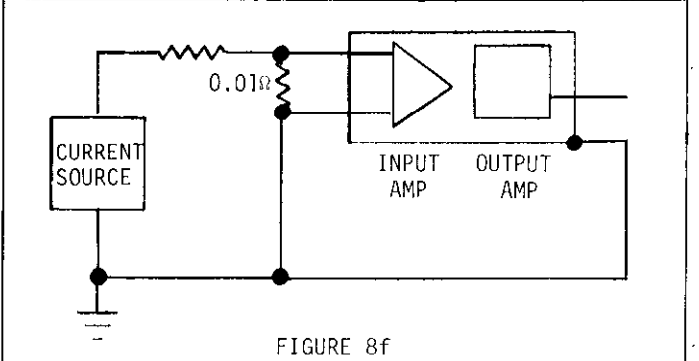

FIGURE 8f
3. Low-resistance "Lindeck" measurements. As in the above situations, the Model 180 has a definite advantage in speed and convenience over potentiometer systems which have traditionally been used to do this type of measurement. The problem with low resistance measurements has been the trade-off between power level and available sensitivity. In a circuit such as Figure 8f, a current of only 100mA may be used with the 180 on the 1mV range, providing .01% resolution. A 1μV DVM would require 1 Amp to provide the same resolution. Potentiometers would provide an equally sensitive measurement of such a low resistance, but not with the speed and convenience of the 180 on the 1mV range. On the .1mV range, the 180 may be used in this circuit to measure resistances of 1 milliohm with .05% accuracy, still using the 100mA from the current source.